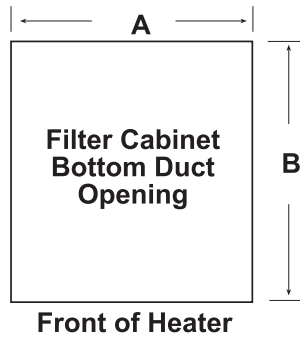

Figure 20. Bottom Return Air Filter Cabinet Duct Opening Dimensions (Refer to Table 10)
3. Connect return air duct to duct flange on bottom of filter cabinet. Duct opening dimensions are shown in Figure 20 and listed in Table 10.
*See Figure 20.